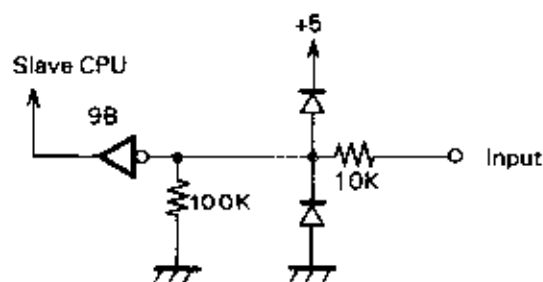

Fig. 2-113
- The $\overline{\text{PRX}}$ and PIN signal lines have a 10-kohm current limiting resistor, a voltage limiter circuit, consisting of two diodes, and a 100 kohm pull-down resistor, as shown in Fig. 2-113. The current limiting resistor protects the connected device from overload and voltage drop. The voltage limiter converts the $\pm 8\text{V}$ RS-232C levels to the 0/+5V TTL levels. The pull-down resistor ensures that the IC inverter to functions properly.